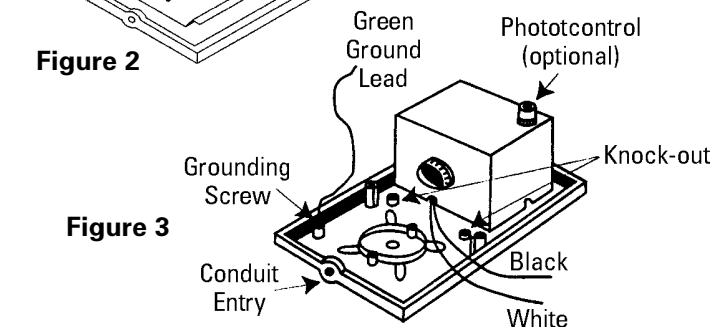

Figure 3
4. Knock out appropriate blanks on back plate for mounting on wall over electrical box. For surface entrance, knock out blank over conduit entrance on bottom of fixture. (Fig. 3)